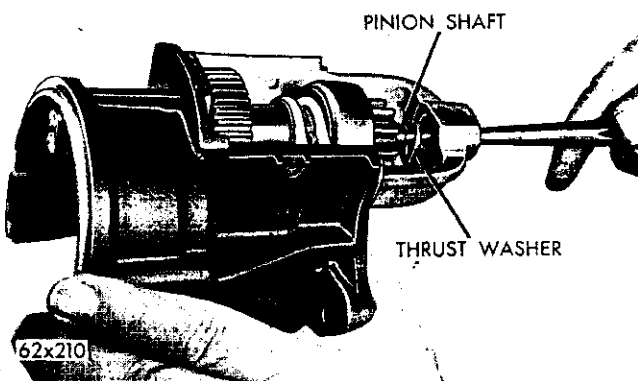
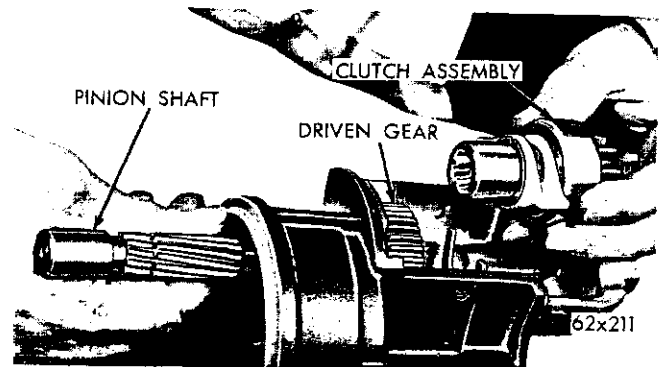
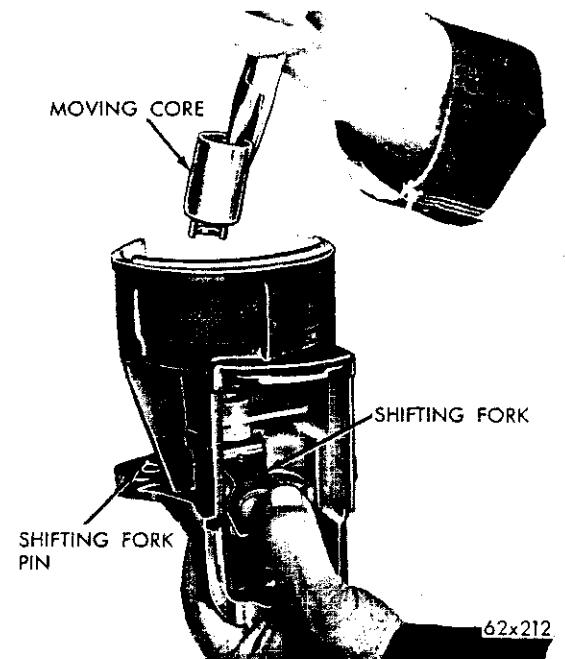

Fig. 32—Removing the Pinion Shaft
Fig. 33—Removing the Clutch Assembly
Fig. 34—Removing the Moving Core
(21) Push the pinion shaft towards the rear of the housing (Fig. 32) and remove the snap ring and thrust washers, clutch and pinion assembly, with the two shifter fork nylon actuators (Fig. 33).
(22) Remove the driven gear and friction washer.
(23) Pull the shifting fork forward and remove the solenoid moving core (Fig. 34).
(2) Install the solenoid moving core and engage the shifting fork (Fig. 34).
(3) Enter the pinion shaft into the drive housing, and install the friction washer and driven gear.
(4) Install the clutch and pinion assembly. (Fig. 33), thrust washer, retaining ring and the thrust washer.